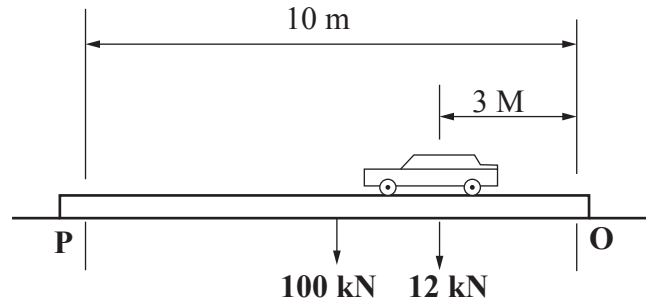

Fig. 5(a)
- 5 (a) **Figure 5(a)** shows a bridge of weight **100 kN** which has a car of weight **12 kN** on the position.